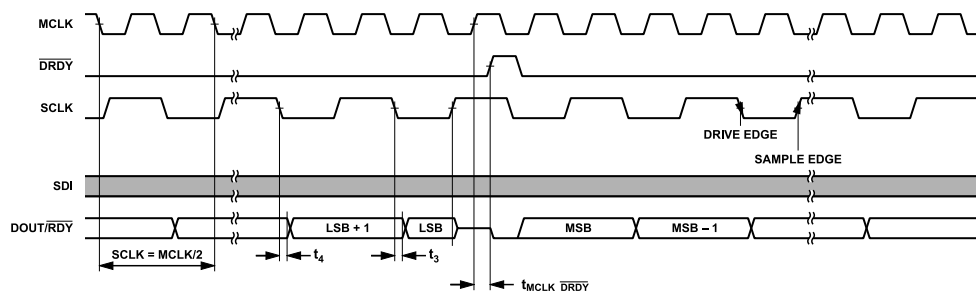

Figure 146. Recommended Interface for Reading Conversions, SPI Control, Continuous Readback Mode
The ADAQ7768-1 interface is flexible to allow the many modes of operation and for data output formats to work across different DSPs and microcontroller units (MCUs). To achieve maximum performance, Figure 146 show the recommended interface configuration
Figure 146 shows how the recommended interface operates. The data read back spans the entire length of the $\overline{DRDY}$ period and the LSB remains until $\overline{DRDY}$ goes high for the next conversion.
2. Generate SCLK based on the $\overline{DRDY}$ or $\overline{RDY}$ timing. SCLK is high when the $\overline{DRDY}$ signal goes high and transitions on the MCLK falling edges (see Figure 146) to ensure that the LSB can be read correctly as the DOUT/ $\overline{RDY}$ output is reset on the $\overline{DRDY}$ rising edge. However, SCLK rising occurs before this transition.
Because the full ODR period is for clocking data, the $\overline{RDY}$ signal no longer flags after each LSB outputs. This signal only flags if the ADAQ7768-1 is in the continuous readback mode, or if the ADAQ7768-1 does not count 32 SCLKs within $1 \times t_{MCLK}$ before $\overline{DRDY}$, as shown in Figure 146.